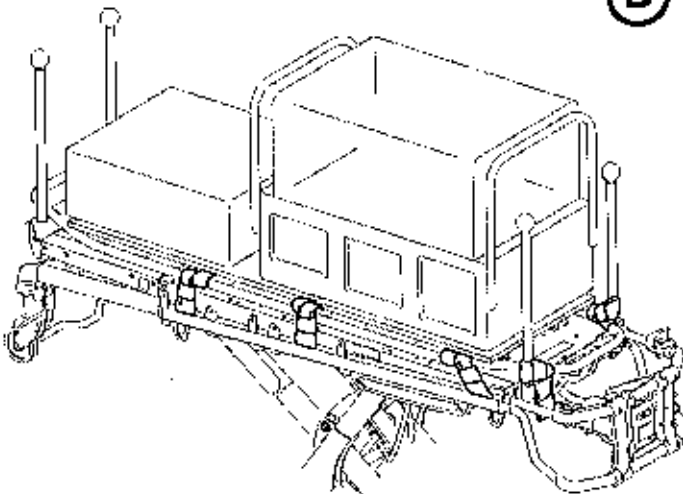

Figure 44
3. Confirm that the Air Sled is secured to the cot as shown in Figure 44.